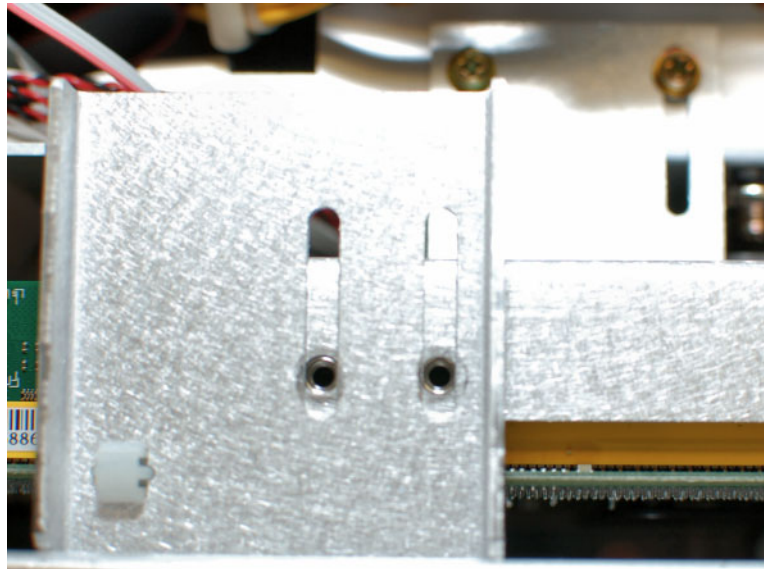

Figure 6: Aligning the CPU stopper bracket
6. Slide the CPU stopper bracket into place. (See Figure 6.)